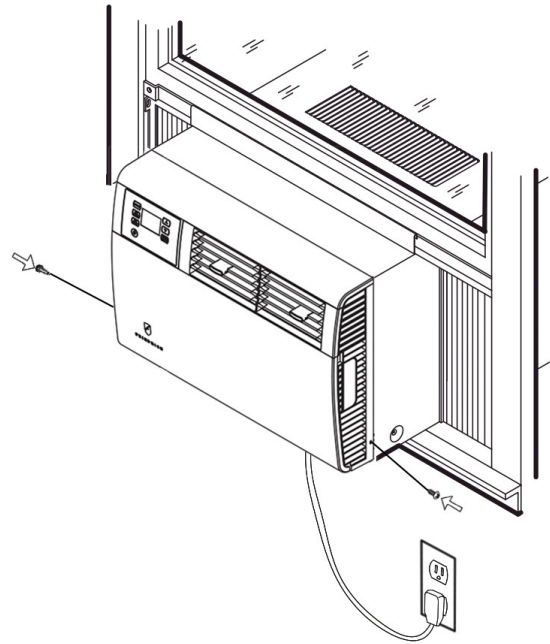

Figure 426 (Remove Entry Gard Screws)
1. Remove the EntryGard™ Screws. (Refer to Figure 426)
4. Reinstall the EntryGard™ screws.. (Refer to Figure 426)